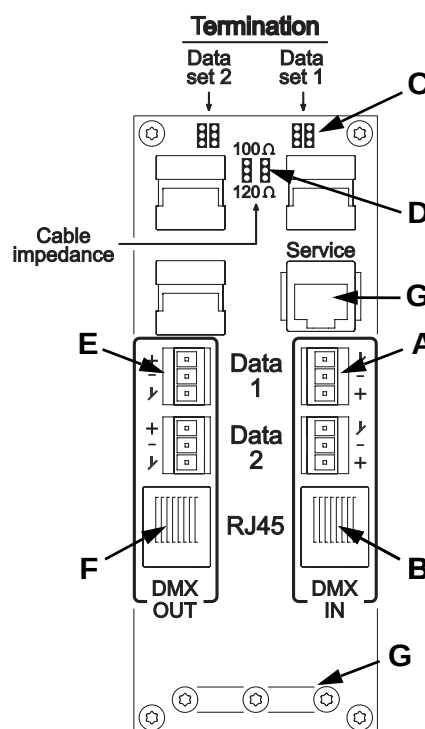

Figure 12: DMX connections
See Figure 12. Either connect the data cable to the luminaire's **Data 1 DMX IN** screw terminals (A) as follows:
3. Connect the DABS1 adaptor to the Exterior 1200 Image Projector using either an XLR connector connected to the data link or the RJ-45 service socket in the connections compartment behind the rear cover plate (see **G** in Figure 12 on page 22). If connecting via the data link, note that you may only connect to one luminaire at a time.